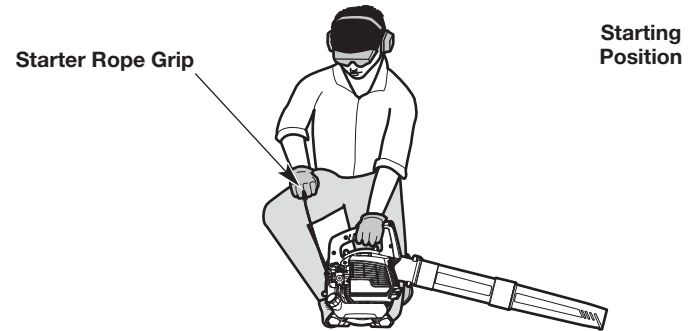

Fig. 5
WARNING: Avoid accidentally starting the unit. To avoid serious injury, the operator and the unit must be in a stable position when pulling the starter rope (Fig. 5).
4. Crouch in the starting position (Fig. 5).